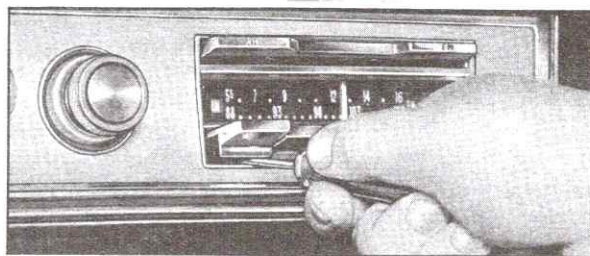

Fig. 15-5 Adjusting Antenna Trimmer
4. Adjust antenna trimmer, located behind left pushbutton, for maximum volume. Access to antenna trimmer is gained by pulling out left pushbutton and working through opening under pushbutton, Fig. 15-5.